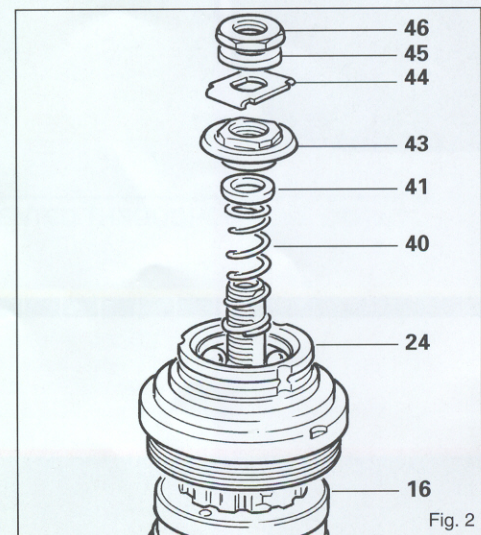

Fig. 2
5. See (Fig.2). Clamp the left hand end of axle in the vice and remove right hand cone locknut, spacers (if any), lockwasher, cone and spring with cap. Lift off ball ring and ball cage assembly, together with the driver assembly. Separate the driver assembly from ball ring by compressing pawls and extracting the driver assembly through ball ring.
- (See Fig. 2). Fit the ball ring assembly then driver assembly compressing pawls to ensure driver ball track seats correctly on ball ring. Fit spring then cap.